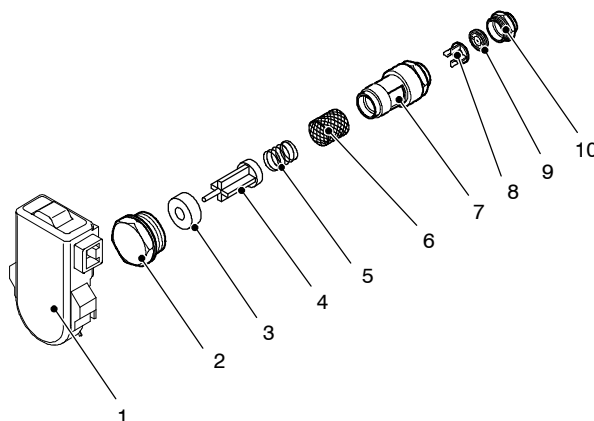

Fig. 57
When the flow rate through the d.h.w. circuit reaches about 2,5 litres/min', the float 4 (Fig. 57) is drawn towards the right.
14.2 Nomenclature and location of parts (Fig. 57)
- 4 Unscrew the plug 2 (Fig. 57) and extract the flow switch group.
- 5 To remove the filter from the flow switch group separate the body 7 from the plug 2 (Fig. 57) by unscrewing it.
Attention: the ring 3 (Fig. 57) has a magnetic polarity and must be correctly coupled with the spindle of the float 4.
- 2 Unscrew the threaded ring 10 (Fig. 57) and remove it from the body 7.